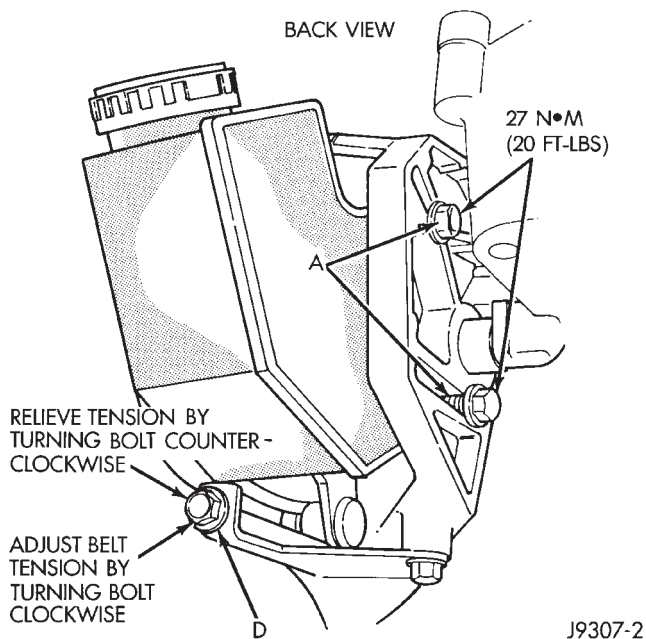

Fig. 4 P.S. Pump Rear Mounting Bolts—4.0L Engine
(a) Loosen two rear power steering pump mounting bolts A (Fig. 4).
- (c) Loosen pump adjusting bolt D (Fig. 4) until belt can be removed.
- (5) Check condition of all pulleys.
(7) Remove two bolts A (Fig. 4).
(10) Install two adjustment bolts A (Fig. 4) finger tight.
(11) Install idler pulley.
- (12) Position drive belt to pulleys.
- (13) Tighten belt adjustment bolt D (Fig. 4) to the proper tension. Refer to the Specifications section at the end of this group for belt tension.
- (14) Tighten bolts A (Fig. 4) to 27 N•m (20 ft. lbs.) torque.